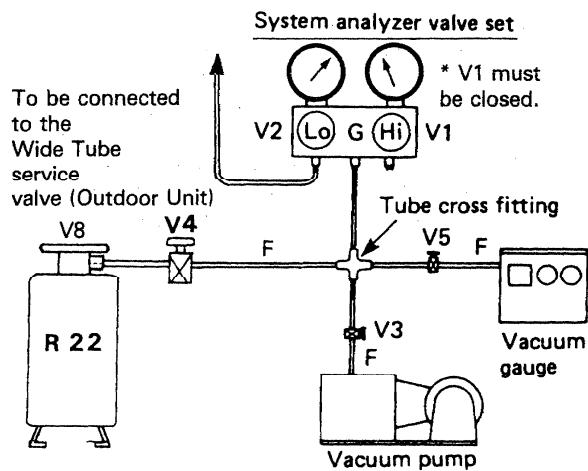

Fig. D-22
- 1) Prepare the system analyzer valve set and connect charging hoses as in Fig. D-22. Be sure to close all valves before connection.